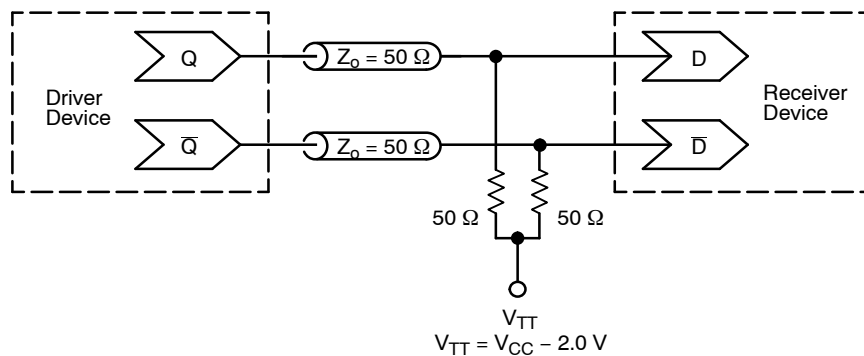

Figure 10. Typical Termination for Output Driver and Device Evaluation
9. All loading with  $50\ \Omega$  to  $V_{CC} - 2.0\text{ V}$  (see Figure 10).
12. All loading with  $50\ \Omega$  to  $V_{CC} - 2.0\text{ V}$  (see Figure 10).
15. All loading with 50  $\Omega$  to  $V_{CC} - 2.0\text{ V}$  (see Figure 10).
18. All loading with 50  $\Omega$  to  $V_{CC} - 2.0\text{ V}$  (see Figure 10).
20. Measured using a 750 mV source, 50% duty cycle clock source. All loading with 50  $\Omega$  to  $V_{CC} - 2.0\text{ V}$  (see Figure 10).